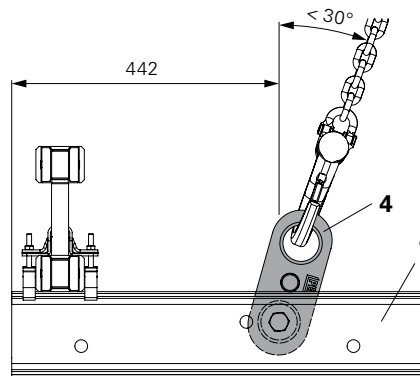

Fig. B2.05
- At the assembly position, dismantle the Spacer (1.5) for the Platform Beam BR (1).
- Position the Crane Eye BR-2 2.5 t (4) on the Spacer (1.5) for the Platform Beam BR (1) and install the complete assembly in its original position. The Crane Eye protrudes upwards out of the Platform Beam BR (1).
- (Fig. B2.05 + B2.06)